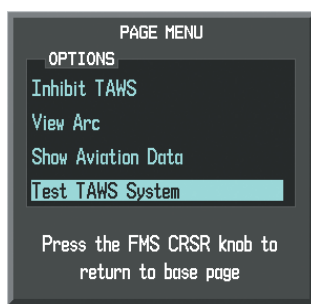

Figure 6-120 TAWS-B Page Menu
- 2) Press the **MENU** Key (Figure 6-120).